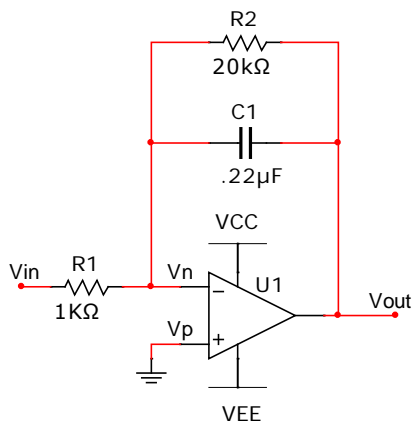
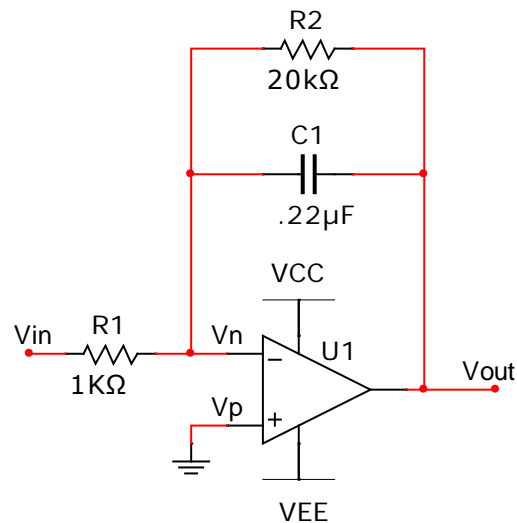

Figure 4. Integrator with shunt.
Figure 14. Integrator with shunt.
2. Analyze the circuit in figure 14 (same as figure 4) to calculate the low-frequency gain. Show that for $\omega \gg \frac{1}{R_2 C_1}$, this circuit also functions as integrator.